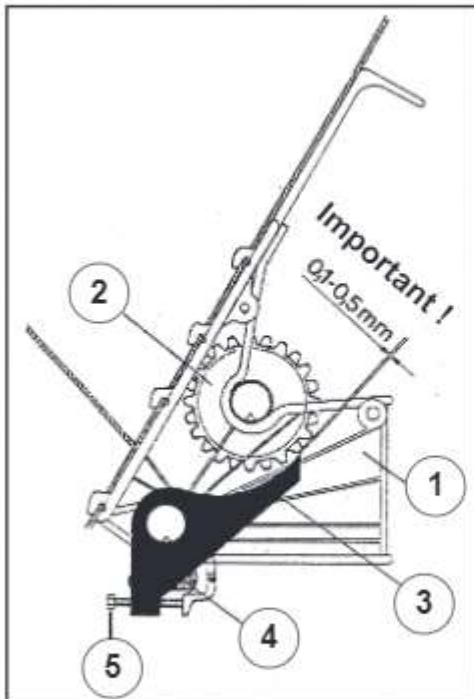

Fig 28
10 Bottom Flaps (Fig 28)
By turning the metering wheel shaft by hand check the flaps are all set to a gap of 0.1 to 0.5mm (refer Fig 28). To adjust individual flaps use the spring tensioning screw (5) (Fig 28).